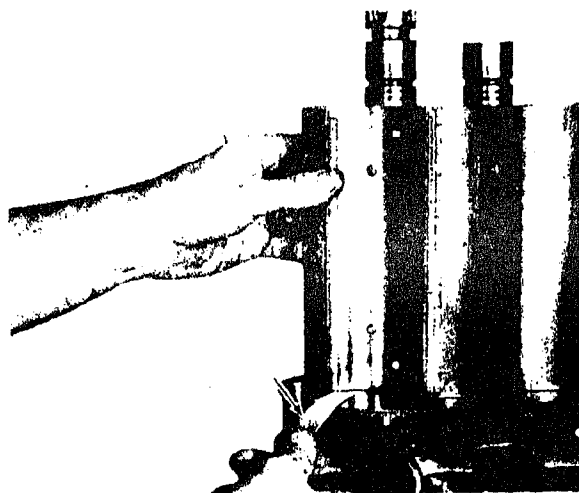

Fig. 10-4-11. Checking rotor end clearance
13. Position expansion plugs (27) on locknuts and tap place.
14. Push rotors toward gear end plate and check end clearance. Fig. 10-4-11. End clearance should be 0.003 to 0.010 in. [0.0762 to 0.254 mm]. Add or remove shims under mounting cage flange to obtain correct end clearance. If shims must be changed, remove locknuts and gears as described in disassembly instructions.